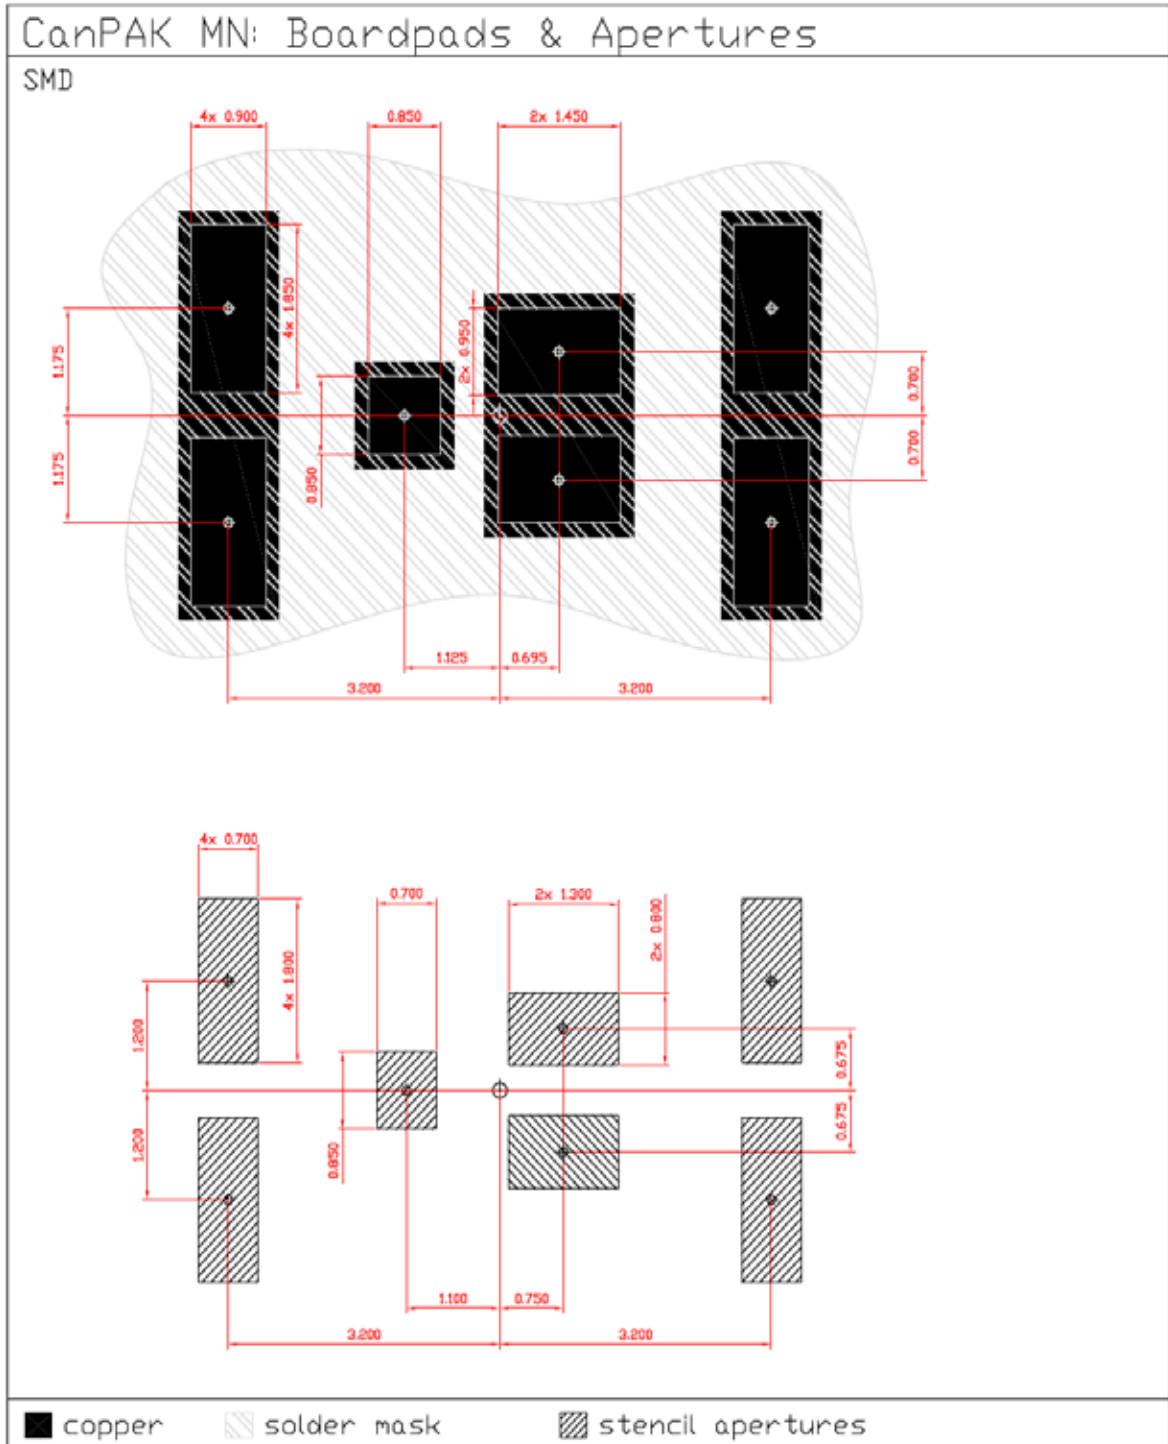

Figure 3 Dimensions in mm/ Recommended stencil thickness 150µm
- 2) See figure 3 for more detailed information